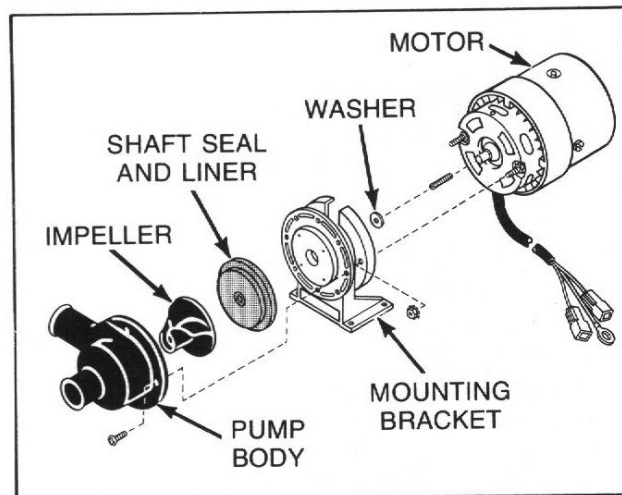

Figure 32
- f. Remove four screws holding pump body to mounting bracket, *Figure 32*.
**NOTE:** See *Figure 32* for pump assembly sequence.